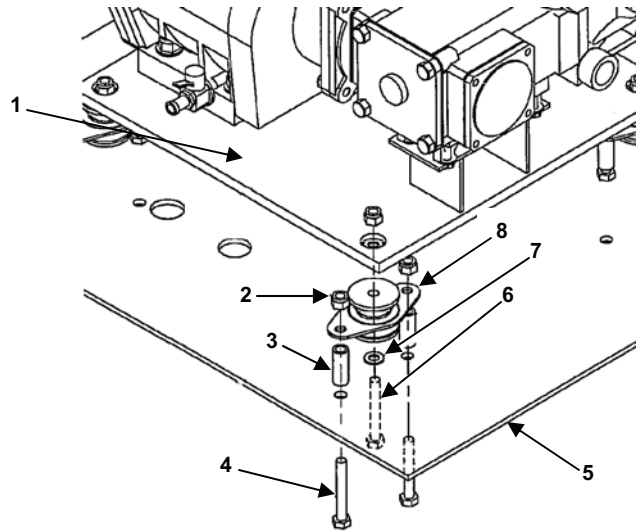

Figure 6. Vibration Mount Assembly.
1. Remove two nuts (Figure 6, item 2), bolts (Figure 6, item 4), and center bolt (Figure 6, item 6).
2. Remove rebound washer (Figure 6, item 7), support tubes (Figure 6, item 3) and vibration isolator (Figure 6, item 8).
1. Place vibration isolator (Figure 6, item 8) and support tubes (Figure 6, item 3) on the mounting plate (Figure 6, item 5).
2. Slide the bolts (Figure 6, item 4) through the mounting plate, support tubes (Figure 6, item 3) and vibration isolator (Figure 6, item 8). Secure with nuts (Figure 6, item 2).